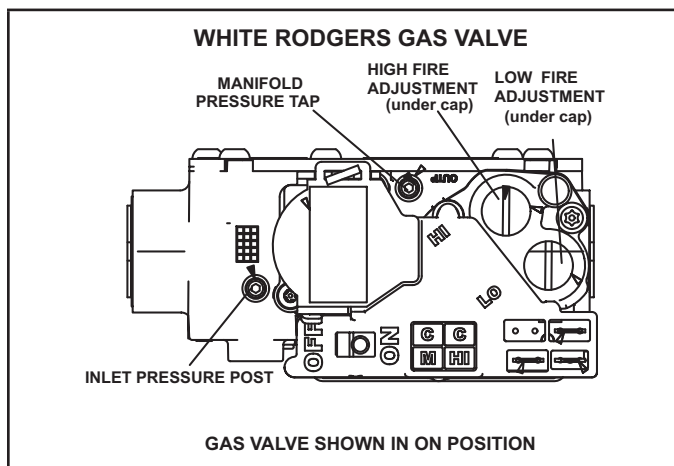

FIGURE 64
Gas Valve Operation (FIGURE 64)
- 6 - Move gas valve switch to **OFF**. See FIGURE 64.
- 8 - Move gas valve switch to **ON**. See FIGURE 64.
An inlet post located on the gas valve provides access to the supply pressure. See FIGURE 64. Back out the 3/32 hex screw one turn, connect a piece of 5/16 tubing and connect to a manometer to measure supply pressure. See TABLE 25 for supply line pressure.
A manifold pressure post located on the gas valve provides access to the manifold pressure. See FIGURE 64. Back out the 3/32 hex screw one turn, connect a piece of 5/16 tubing and connect to a manometer to measure manifold pressure.
- 5 - If necessary, make adjustments. FIGURE 64 shows location of high fire and low fire adjustment screws.